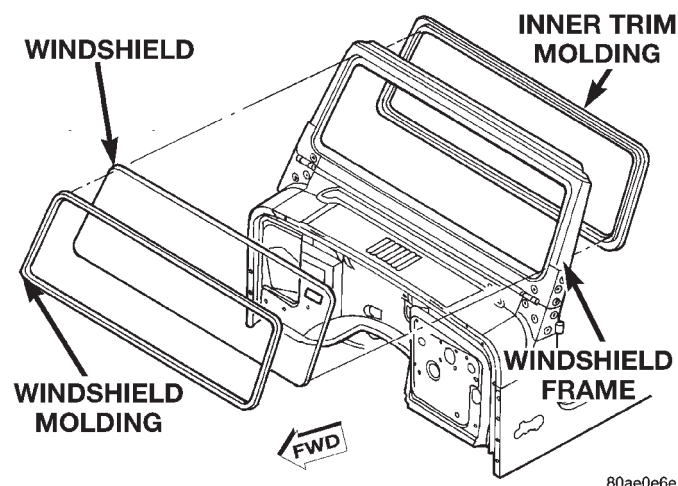

Fig. 2 Windshield
(6) Remove the windshield glass from the frame (Fig. 2).